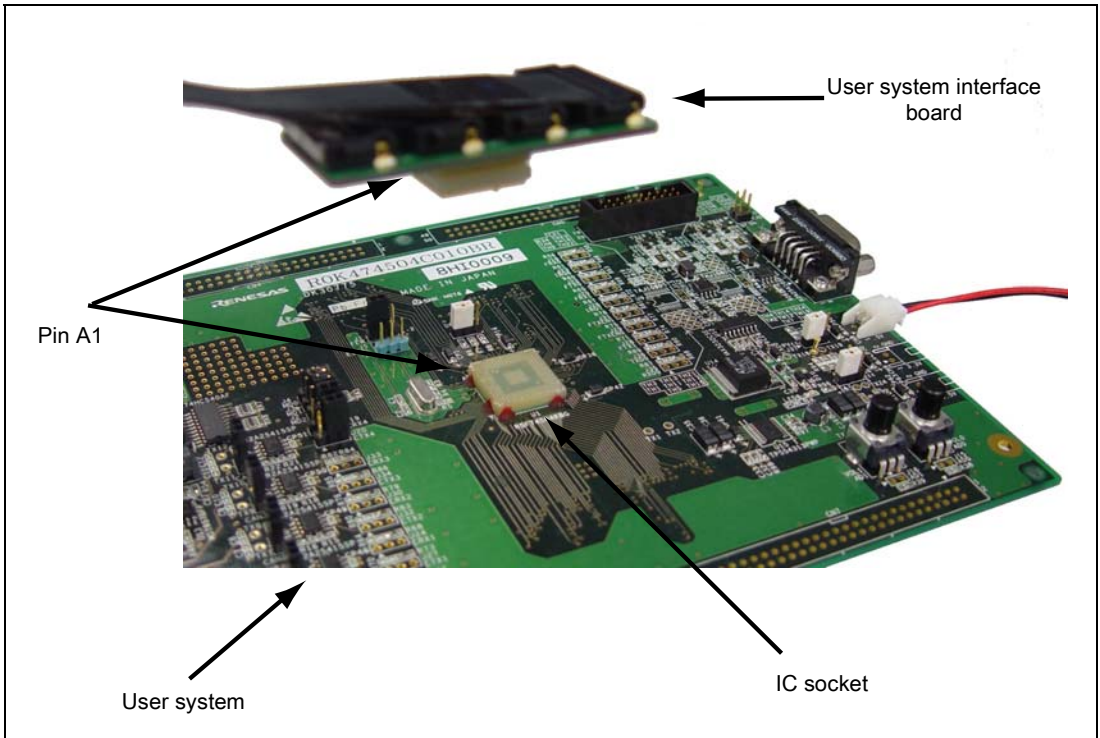

Figure 2.8 Connecting the User-System Interface Board to the User System
- Align pin A1 on the IC socket on the user system with pin 1 on the user-system interface board, and plug the user system connector of the interface board into the IC socket on the user system, as is shown in figure 2.8.